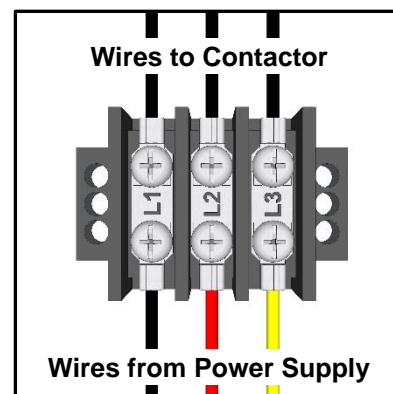

Figure 14
- 1** Have your certified electrician connect power to the 3 terminal T-bar and ground wire to grounding block. (see Figure 14)